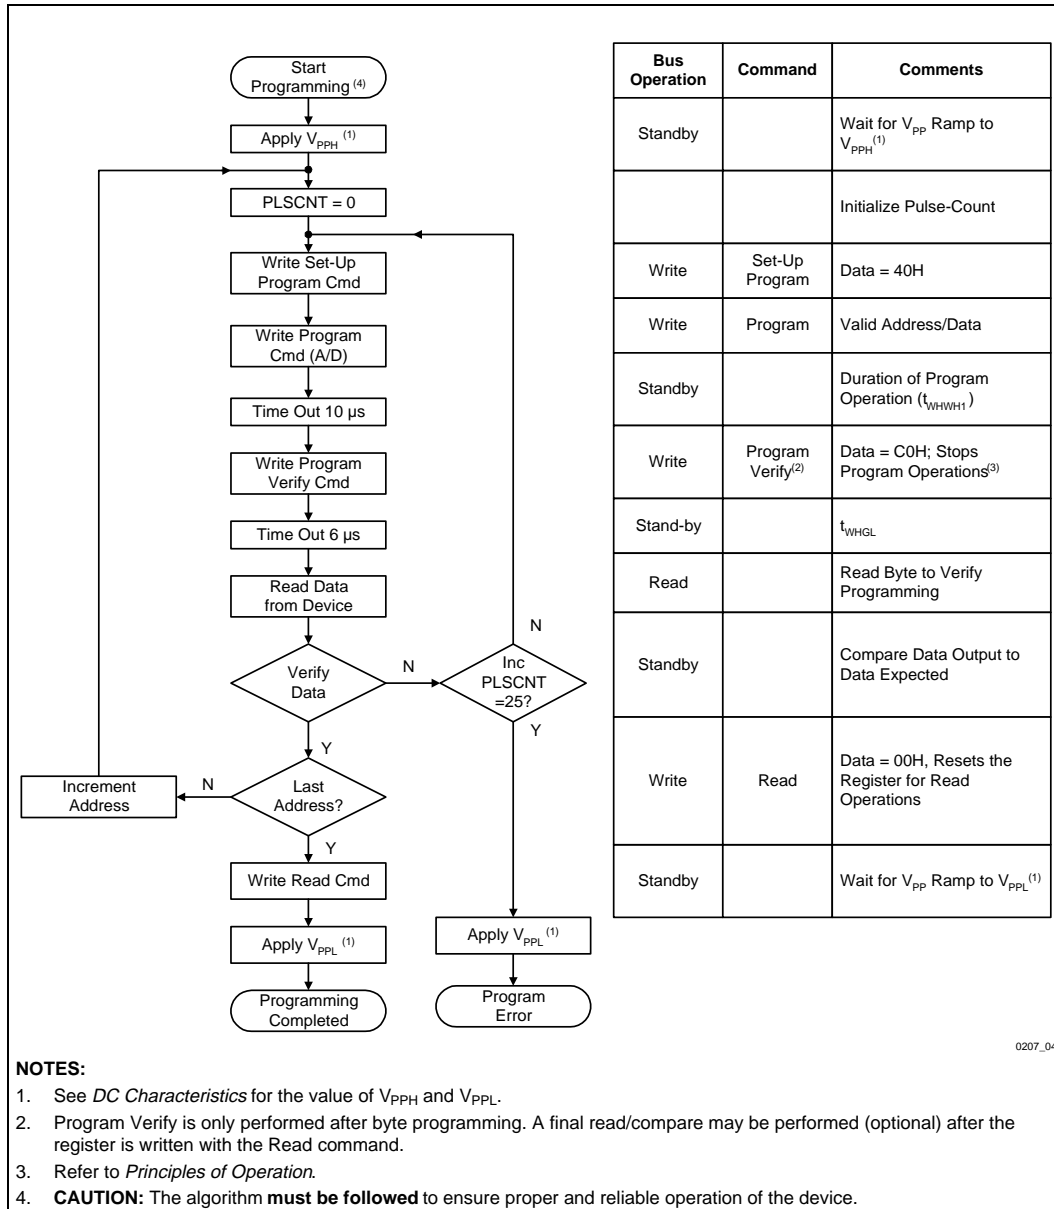

Figure 4. 28F010/28F020 Quick-Pulse Programming Algorithm
- Figure 4 illustrates the *28F010/28F020 Quick-Pulse Programming Algorithm* flowchart.
The quick-pulse programming algorithm uses programming operations of 10  $\mu$ s duration. Each operation is followed by a byte verification to determine when the addressed byte has been successfully programmed. The algorithm allows for up to 25 programming operations per byte, although most bytes verify on the first or second operation. The entire sequence of programming and byte verification is performed with  $V_{PP}$  at high voltage. Figure 4 illustrates the *28F010/28F020 Quick-Pulse Programming Algorithm* flowchart.